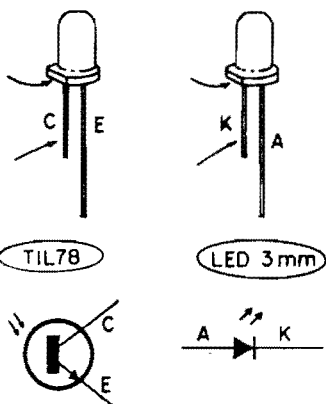

Fig.3
- FIG. 3 - DETALHES DE COMPONENTES IMPORTANTES...